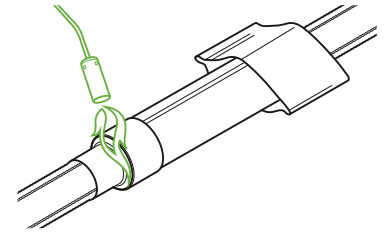

Fig. B12.2.9
9. Using a gas burner, shrink down the heat shrink band, ensuring that the flame is moving continuously - evenly heating around its circumference (Fig. B12.2.9). It is important to keep the flame moving to prevent localised overheating. The distance between the gas burner and heat shrink band surface should be around 100-150 mm. Repeat the same steps to shrink down the second band.